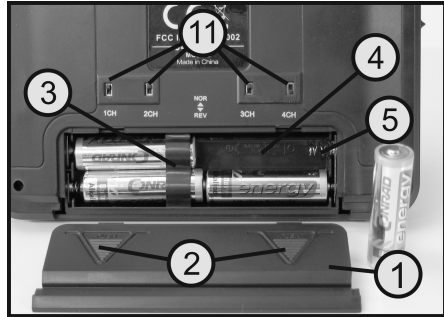

Figure 16
- 11 Reverse switches (see also Figs. 16 and 24)
This can be done by using four factory-set reverse switches on the remote control (see also Figure 16, no. 11).